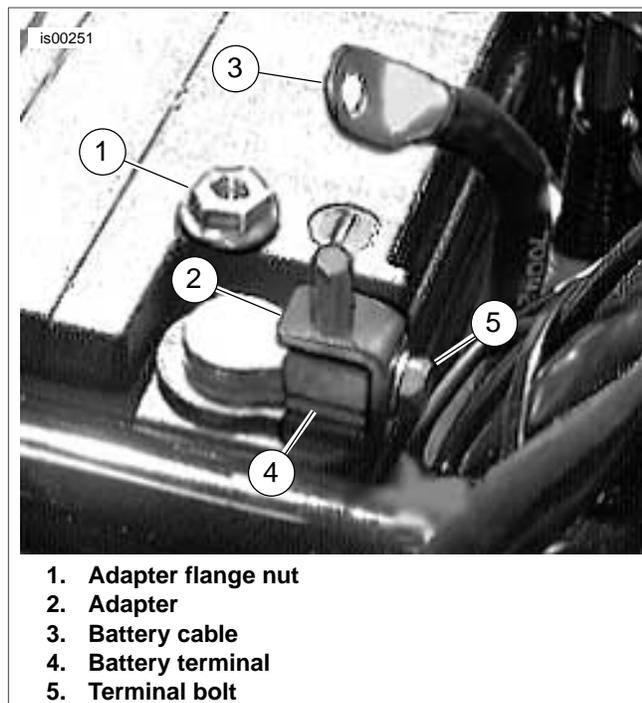

Figure 3. Terminal Adapter Kit
- a. See Figure 3. Insert existing terminal bolt through hole in adapter and secure adapter to terminal. Tighten bolt.